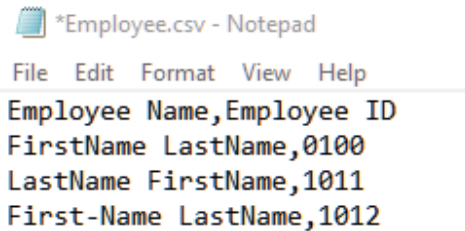

Fig. 56
2. Save the file as "Scope.csv" (without quotations) (Fig. 56).